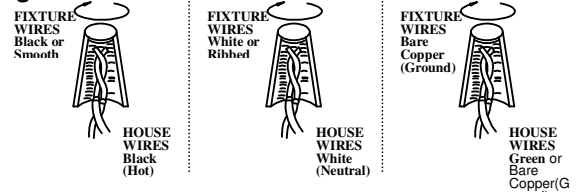

Fig. 3
6. Place the fixture over the mounting screws (E), and secure with lock nuts (F).
7. To prevent moisture from entering the outlet box and causing a short, use clear caulking (i.e. Indoor/Outdoor silicone sealant) to outline the outside of fixture back plate where it meets the wall leaving a space at bottom to allow moisture a means to escape. (Fig. 3)
8. Bulb (G) information: (1 x AC LED 10W included.)